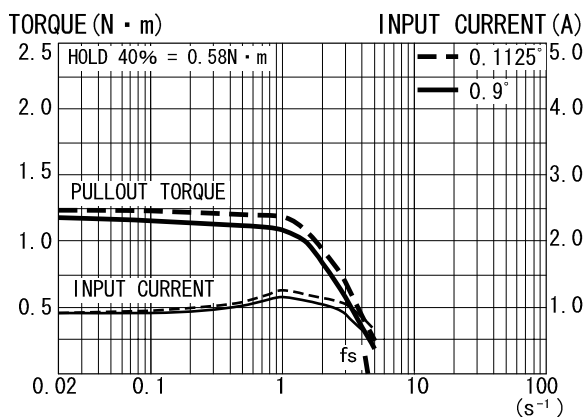
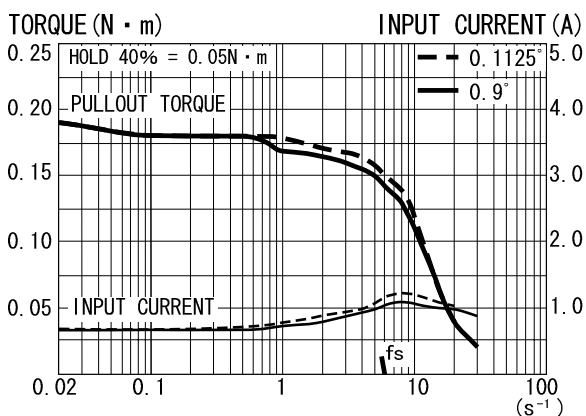

Fig. 11
Fig. 12
| PK244-01A (B) PK245-01A (B) | 1.8 | 1.2 | 8 | Fig. 11 Fig. 12 |